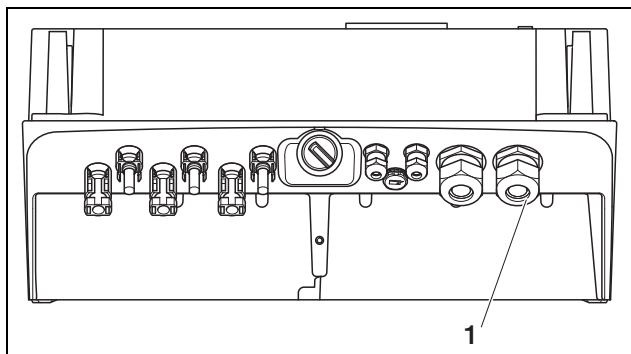

Fig. 10: Connection on the housing (the number of usable inputs depends on the model)
- Unscrew the cable screw connection for the mains cable (1 in figure 10).